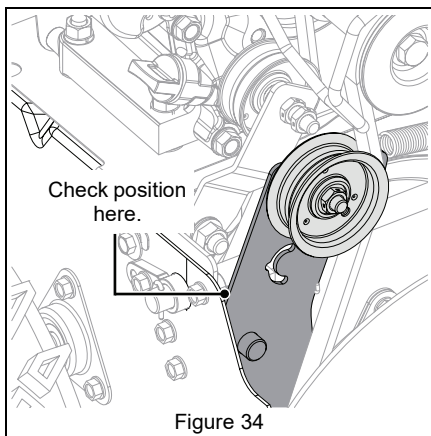

Figure 34
5. With the attachment clutch disengaged, make sure auger idler arm lightly touches the frame. See Figure 34.